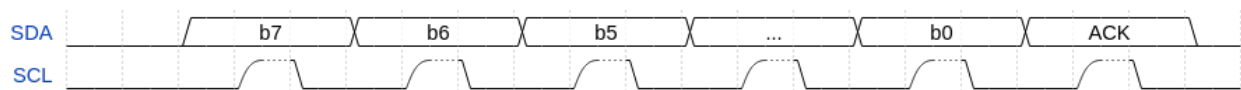

Figure 4: I2C write byte
If the read/write bit of the transaction start is 1 then the master will execute a sequence of writes. Each read consists of the master driving the clock whilst and also driving the data for 8-bits (most significant bit first). At the end of each byte, the slave drives another clock pulse and will either drive either an ACK (0) (signalling that it can accept more data) or a NACK (1) (signalling that it cannot accept more data) on the data line. After the ACK/NACK signal, the master can complete the transaction with a stop bit or repeated start. A write byte sequence is shown in Figure 4.